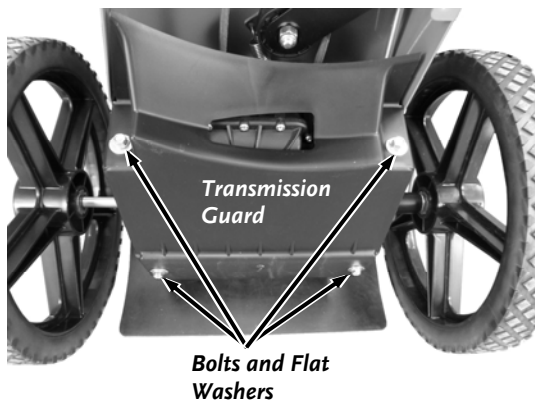

Figure 34
4. Remove the four Transmission Cover Bolts and Flat Washers with a 3/8" Wrench. Remove the Transmission Cover (**Figure 34**).
22. Install the Transmission Cover and secure with the four Bolts and Flat Washers using a 3/8" Wrench (**Figure 34**).